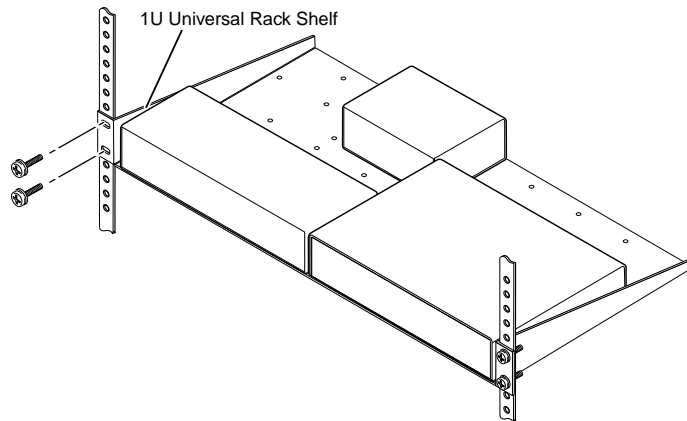

Figure 3. Mounting the Transmitter or Receiver on a Universal Rack Shelf
- RSU 129 9.5-inch deep universal rack shelf kit (part #60-190-01) (figure 3)